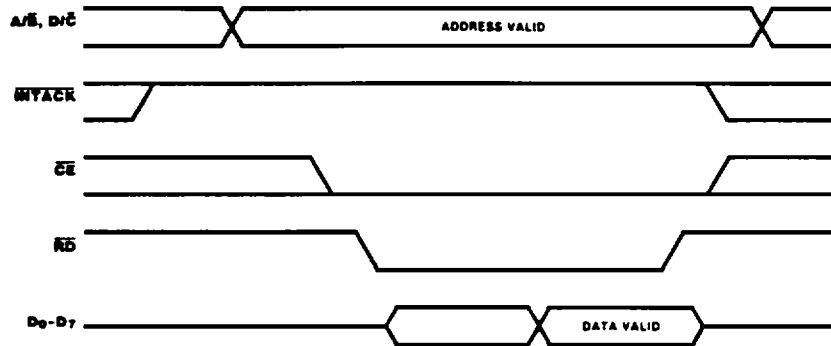

Figure 12. Read Cycle Timing
**Read Cycle Timing.** Figure 12 illustrates Read cycle timing. Addresses on A/ $\overline{B}$  and D/ $\overline{C}$  and the status on  $\overline{INTACK}$  must remain stable throughout the cycle. If  $\overline{CE}$  falls after  $\overline{RD}$  falls or if it rises before  $\overline{RD}$  rises, the effective  $\overline{RD}$  is shortened.